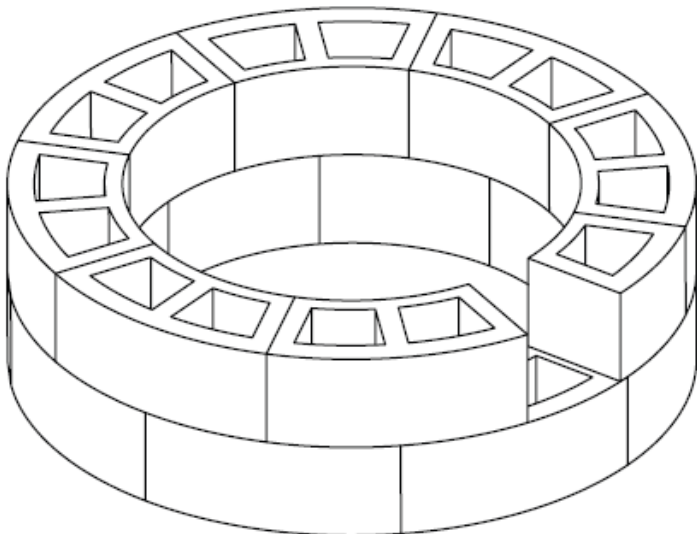

Figure 9 - Top Layer (BOFP16-48 Shown)
4. When starting the top layer, stagger blocks to the layer below. Use 7 full blocks and one half block to build the top layer (see Figure 9). After laying out all blocks, using a level, verify all the blocks are level. Shim if necessary.